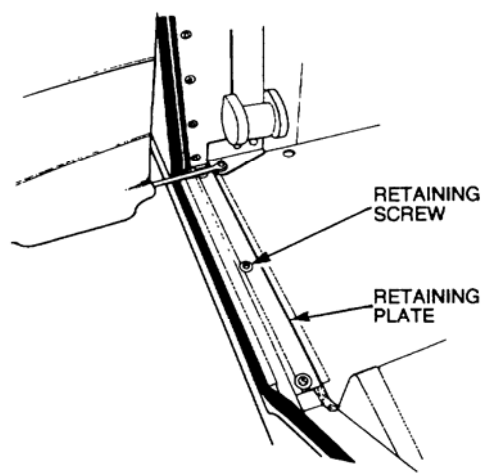

Figure 11 Removal of the Rear Mats
- n. Remove the screw securing the rear mat retaining plates to the floor (Figure 11) and remove the plates and mats.